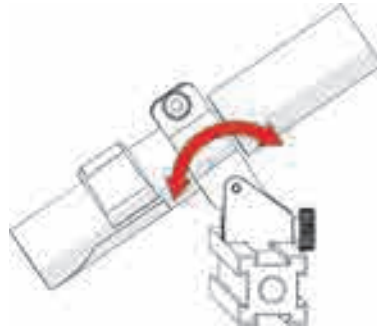

Figure 4-126 Aim guide
3. Adjust the laser guide's friction pivot to direct the laser beam as required (see Figure 4-126 on page 188).